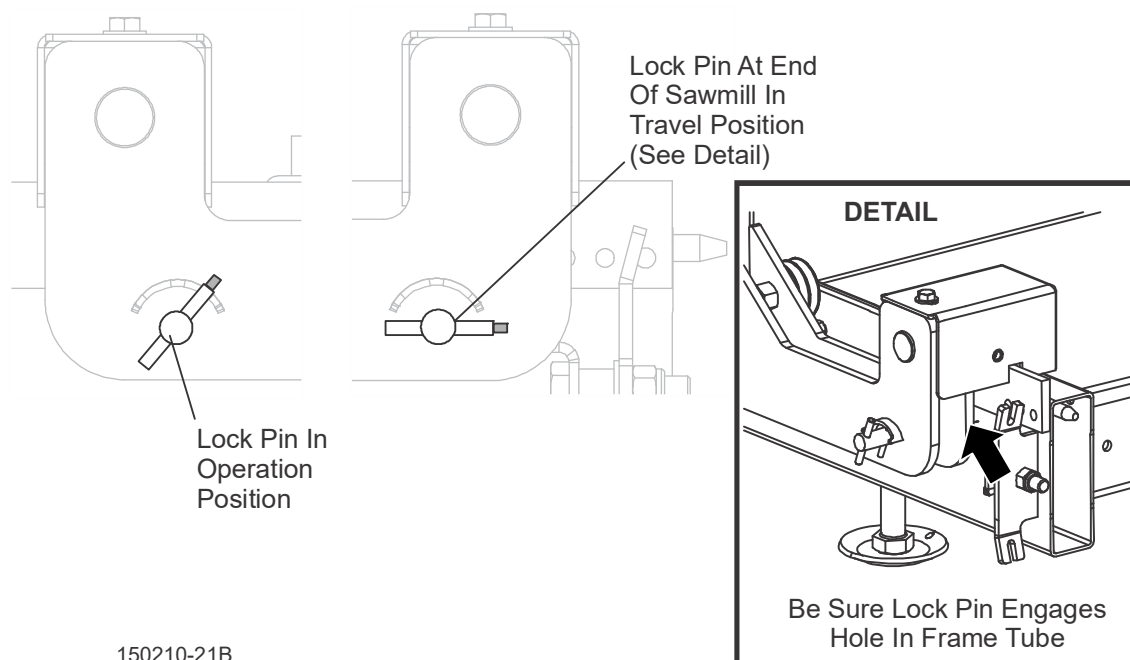

FIG. 5-10
1. Remove the leg assemblies or adjust them above the bottom of the bed frame. See FIGs. 5-10 and 5-16. See Section 8.5 for a detailed description of carriage lock pin operation.